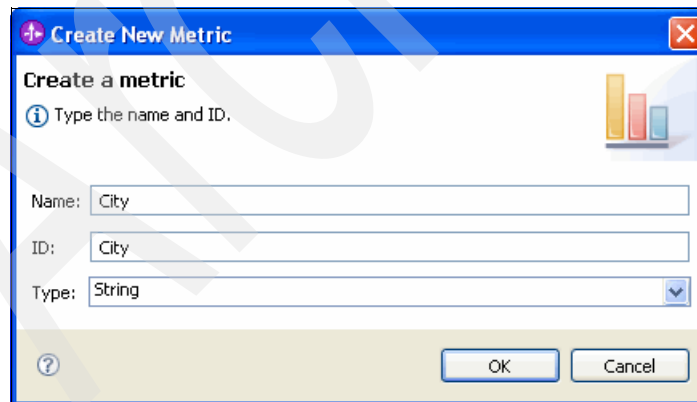

Figure 8-59 Setting the metric name
2. In the Create New Metric window (Figure 8-59), for Name, type City and click **OK**.